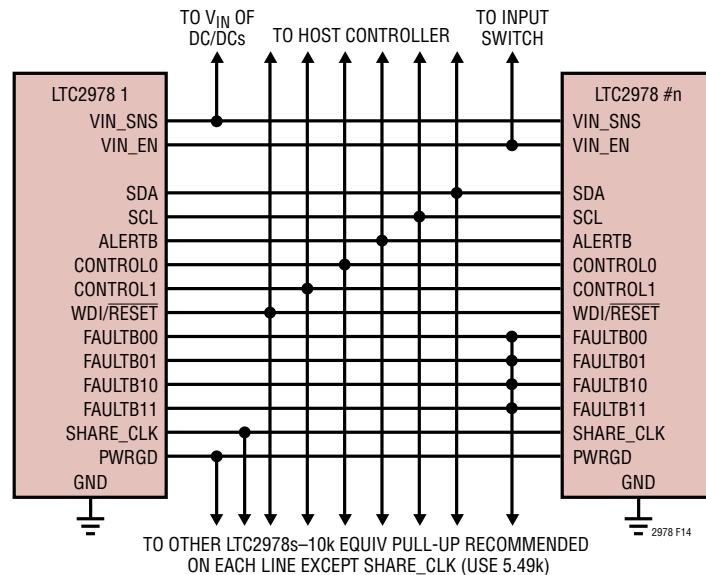
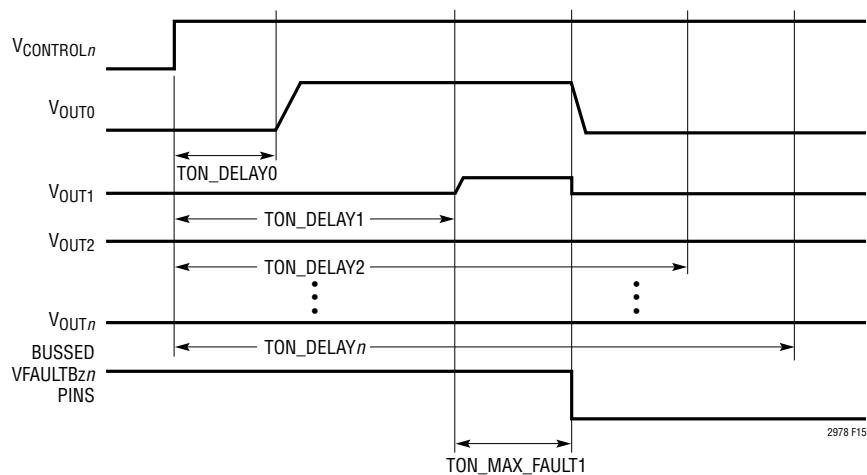

Figure 14. Typical Connections Between Multiple LTC2978s
Figure 15. Aborted On Sequence Due to Channel 1 Short
Figure 14 shows how to interconnect the pins in a typical multi-LTC2978 array.
- Connecting all  $V_{IN\_EN}$  lines together will allow an overvoltage (OV) fault on any DC/DC converter's output in the array to shut off a common input switch.
- The `FAULTB $n$`  lines can be connected together to create fault dependencies. Figure 14 shows a configuration where a fault on any `FAULTB $n$`  will pull all others low. This is useful for arrays where it is desired to abort a startup sequence in the event any channel does not come up (see Figure 15).
- `PWRGD` reflects the status of the outputs that are mapped to it by the `MFR_PWRGD_EN` command. Figure 14 shows all the `PWRGD` pins connected together, but any combination may be used.